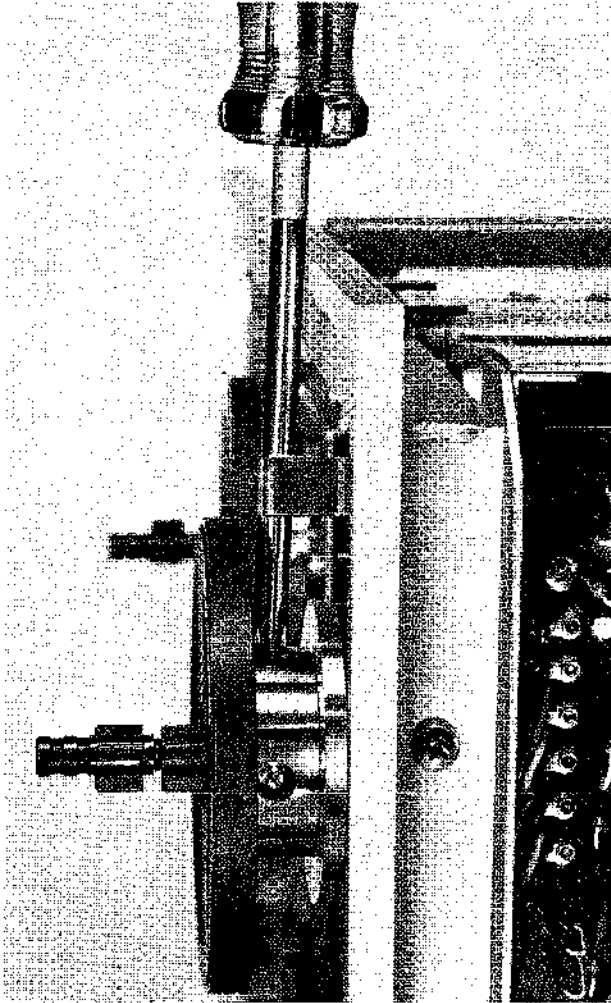

Fig. 8 Reel Table Height Adjustment
- (b) As shown in Fig. 8, loosen the 2 screws behind reel table and adjust height.